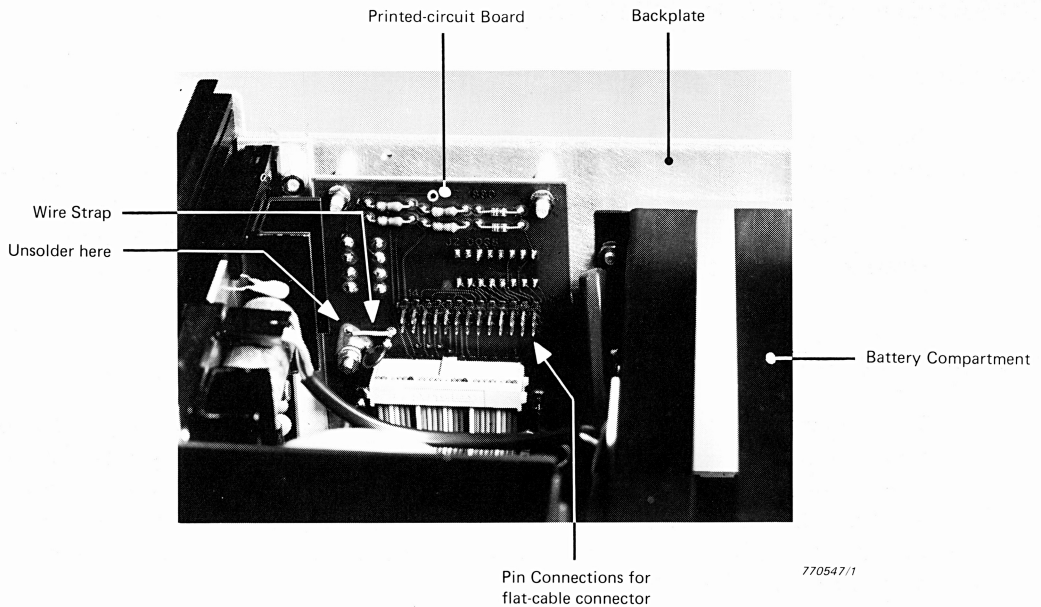

Fig.3.7. Position of wire grounding strap
3. Unplug the flat-cable connector on the printed-circuit board on the backplate (see Fig.3.7).
4. Unsolder the wire strap (see Fig.3.7), and move it away from the terminal.